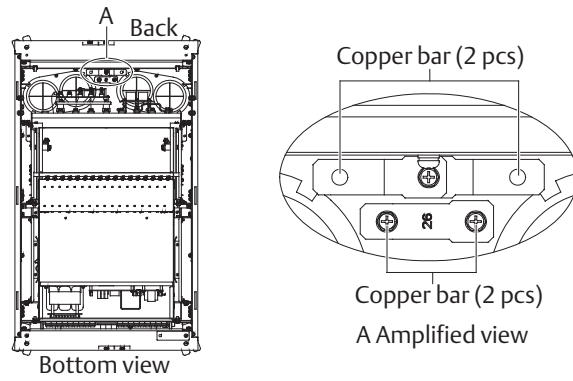
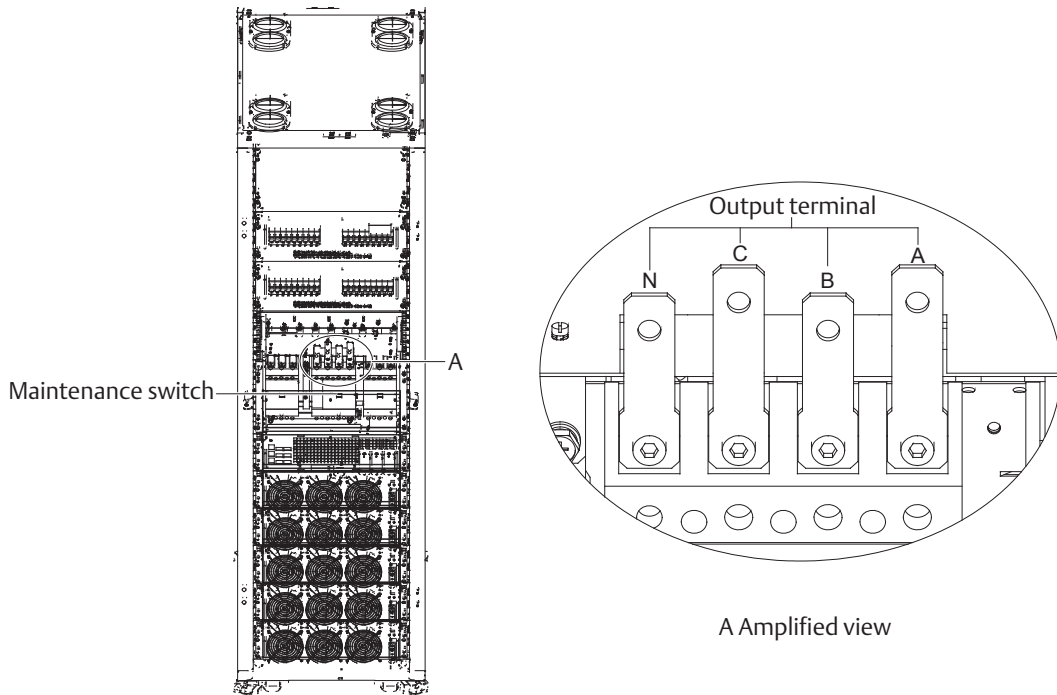

Figure 7-2 Removing copper bars (bottom view)
Figure 7-3 Installing copper bars
1. For UPS without output distribution module, remove the four copper bars on the bottom of the UPS cabinet, as shown in Figure 7-2; connect these four copper bars respectively to the four terminals (A, B, C, N) of the maintenance switch in the front of cabinet, which serve as output terminals, as shown in Figure 7-3.